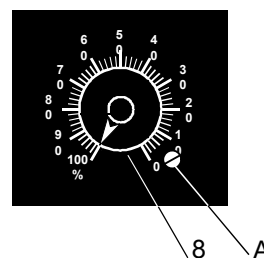

Fig. 19 Stroke-length adjustment knob
5. Remove the locking screw (A) from the stroke-length adjustment knob (8) using a screwdriver. See fig. 19.
10. Insert the locking screw (A) using a screwdriver and tighten gently.